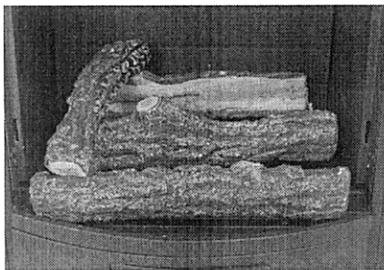

Figure 8
- Insert the pinhole on the upper part of log 4 into the pin on the left side of log 1. Place the lower part on the flat roof at the left side of log 3 (Figure 8).